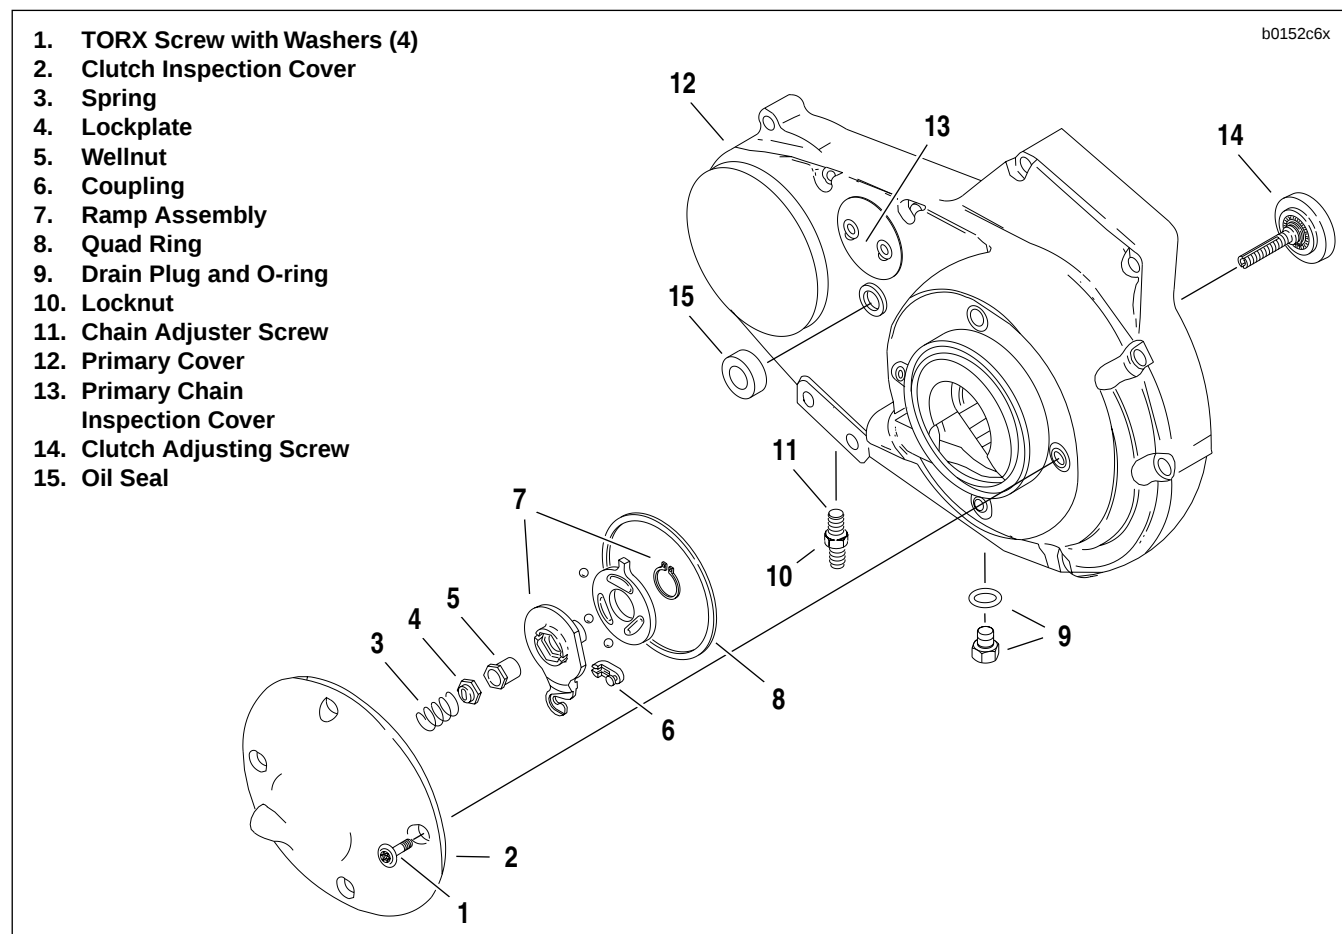
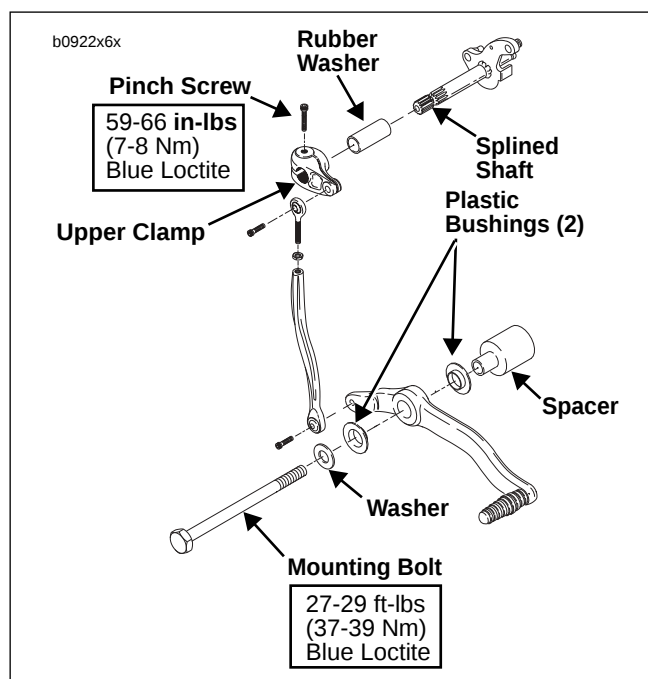

Figure 6-1. Primary Cover
Figure 6-5. Shifter Lever
5. See Figure 6-1. Place a drain pan under the engine. Remove drain plug (9) and drain lubricant from primary drive.
4. See Figure 6-1. Install **new** shifter lever oil seal (15).
5. Fit coupling (6) over cable end with rounded side inboard, the ramp connector button outboard. With retaining ring side of ramp assembly facing inward, place hook of ramp (7) around coupling button and rotate assembly counterclockwise until tang on inner ramp fits in slot of primary cover.
6. Thread wellnut (5) on adjusting screw (14) until slot of screw is accessible with a screwdriver. Fit wellnut hex into recess of outer ramp and turn adjusting screw counterclockwise.
10. See Figure 6-5. Apply LOCTITE THREAD-LOCKER 243 (Blue) to shift lever mounting bolt.